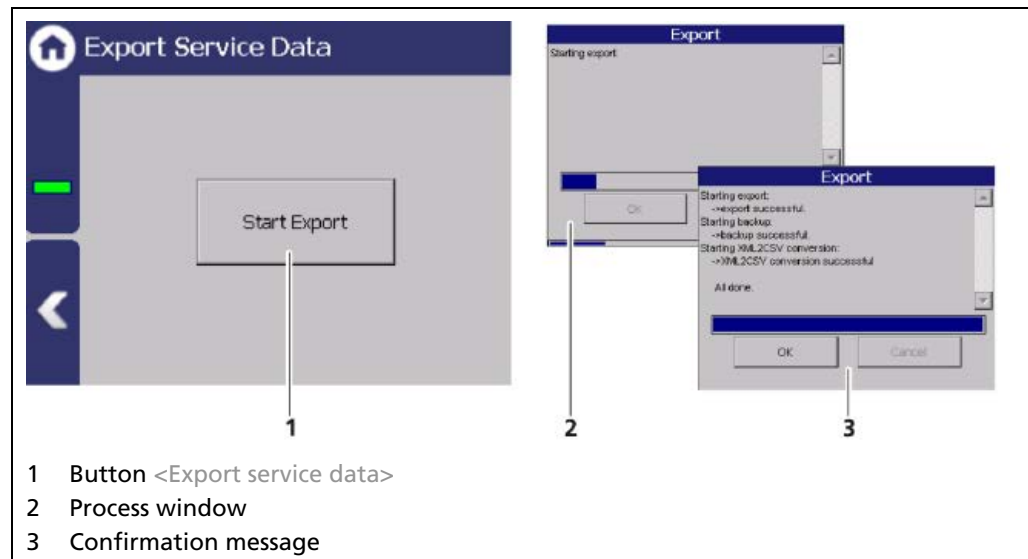

Fig. 131 Export Service Data
2. The USB storage device is recognized by the system after a few seconds and the button <Start Export> (Fig. 131, item 1) can be clicked.
- ▶ The process window is displayed and the export of service data will be carried out (Fig. 131, item 2).
- ▶ After successful export a confirmation message Fig. 131, item 3) is displayed.